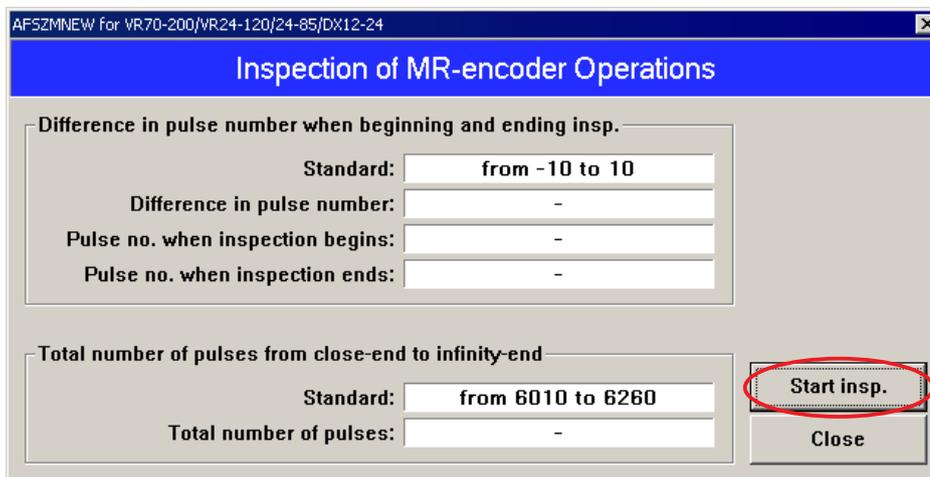

Fig.1
(2) Screen for inspecting MR encoder operation
① Click "Start insp." of "Fig.1".